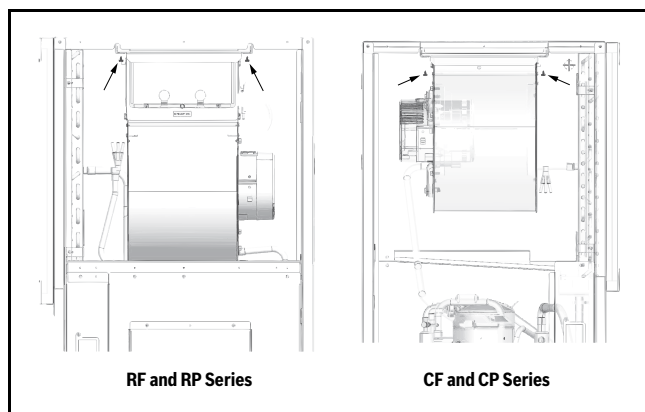

Fig. 8 Screws Securing the Blower to the Top Panel
2. Remove the two screws securing the blower to the top panel. (→Refer to Fig. 8.)